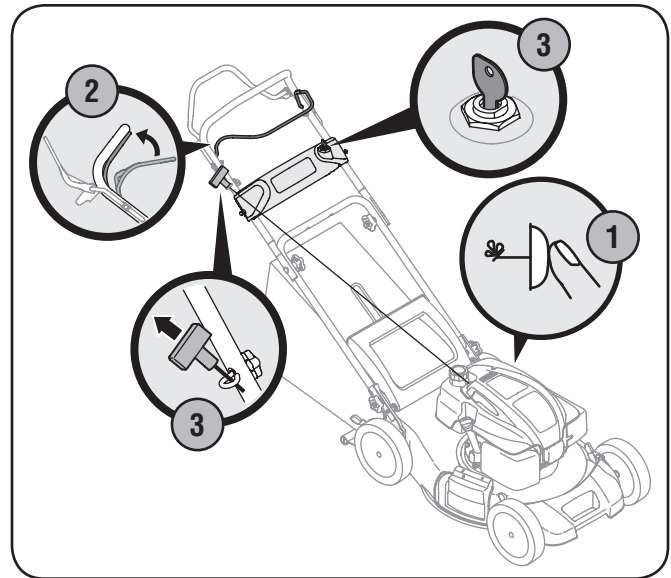

Figure 9-3
1. Push primer 3 times. Wait about two seconds between each push. See Fig. 9-3. In temperature below 50°F, prime 5 times. After the engine is warmed up, one prime may be needed for all temperatures.
3. **Recoil Start:** Pull the recoil starter lightly until resistance is felt, then pull rapidly to overcome compression, prevent kickback, and start the engine. Repeat if necessary. See Fig. 9-3.
**Electric Start:** Turn ignition key to the right to start the engine. Release the key after the engine starts. See Fig. 9-3.